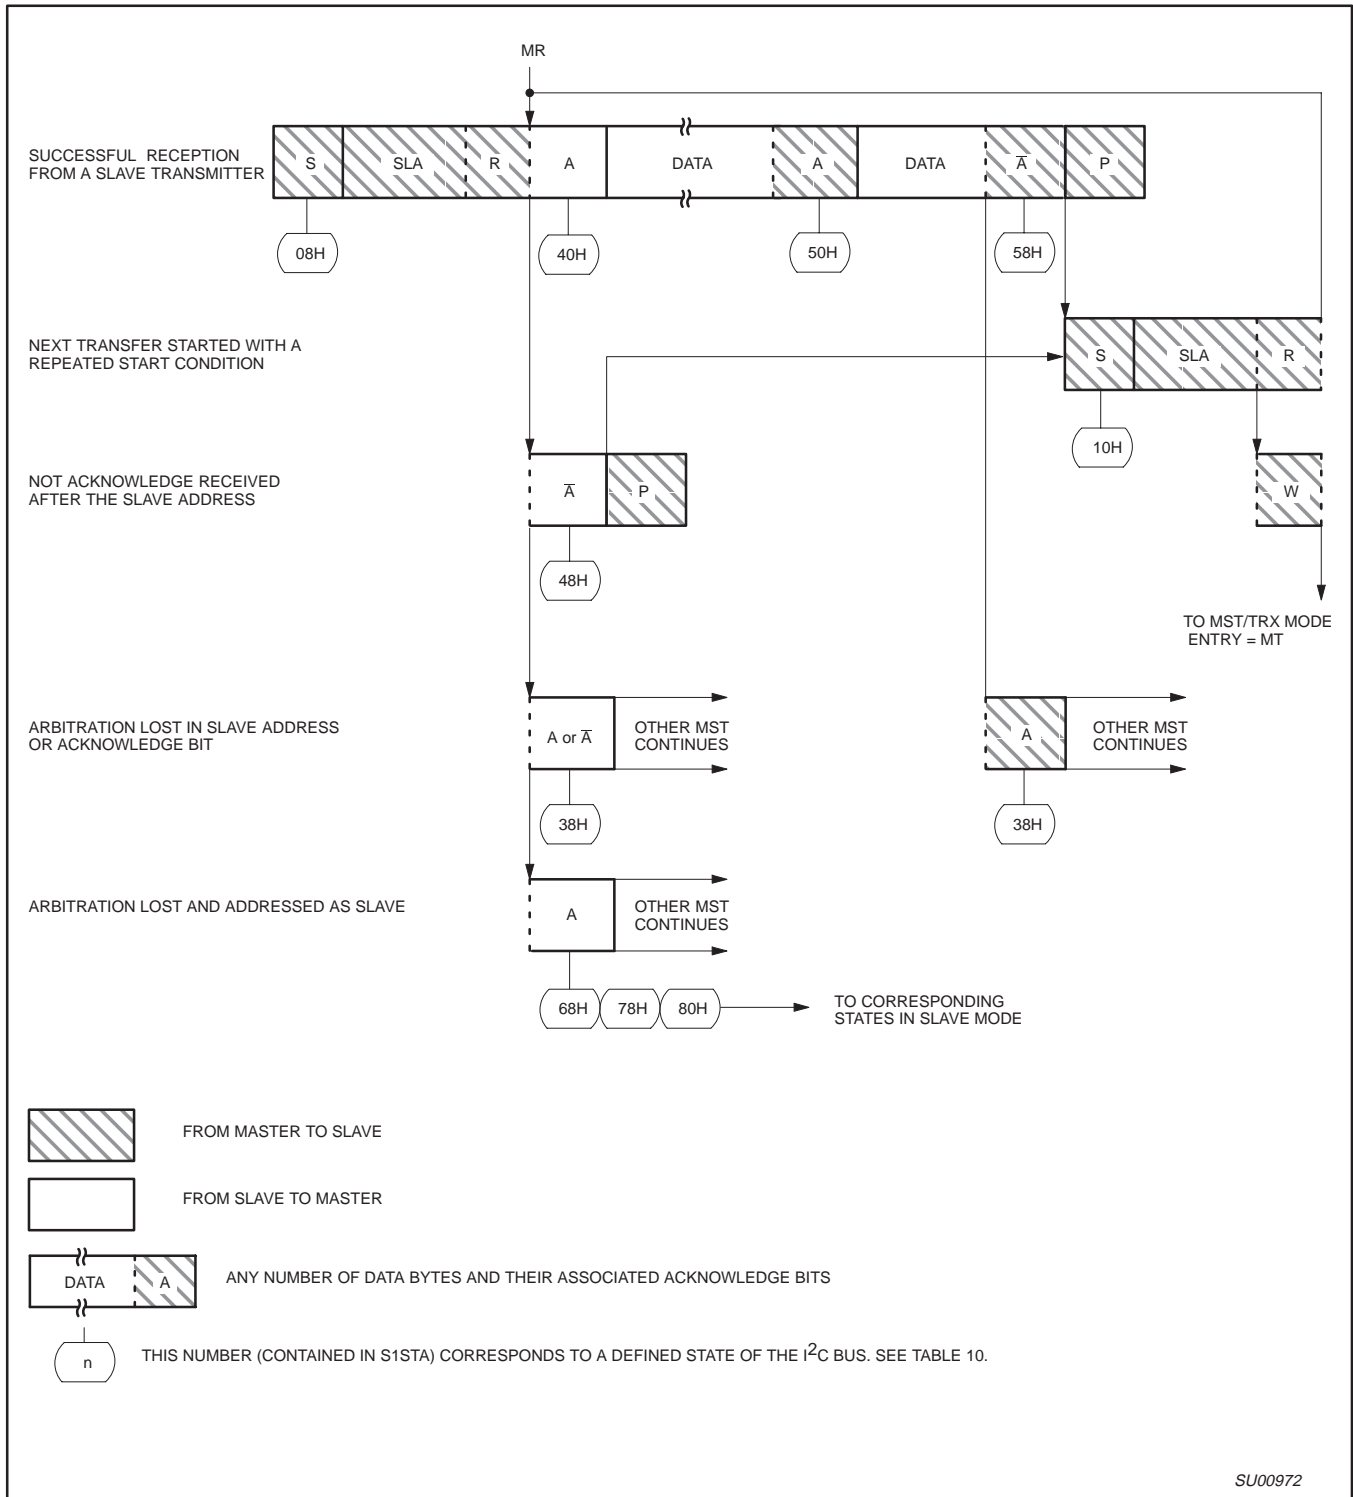

Figure 23. Format and States in the Master Receiver Mode
**Master Receiver Mode:** In the master receiver mode, a number of data bytes are received from a slave transmitter (see Figure 23). The transfer is initialized as in the master transmitter mode. When the start condition has been transmitted, the interrupt service routine must load S1DAT with the 7-bit slave address and the data direction bit (SLA+R). The SI bit in S1CON must then be cleared before the serial transfer can continue.